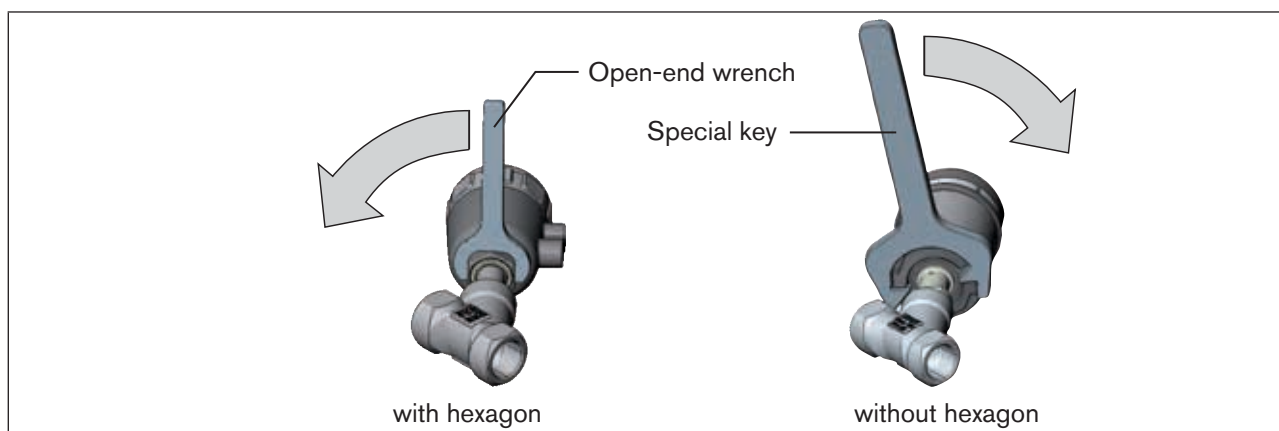

Figure 17: Rotating with special key / open-end wrench
- ▶ Rotate the actuator module **in the specified direction only** (see “Figure 17”).